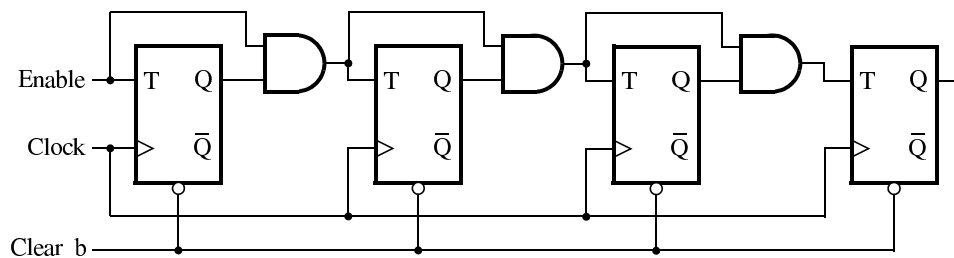

Figure 1: A 4-bit counter.
Consider the circuit in Figure 1. It is a 4-bit synchronous counter that uses four T-type flip-flops. The counter increments its value on each positive edge of the clock if the *Enable* signal is asserted. The counter is reset to 0 by setting the *Clear_b* signal low – it is an active-low asynchronous clear. You are to implement an 8-bit counter of this type.
1. Draw the schematic for an 8-bit counter using the same structure as shown in Figure 1.
6. Use the Quartus II RTL Viewer to see how the Quartus II software synthesized your circuit. What are the differences in comparison with Figure 1?